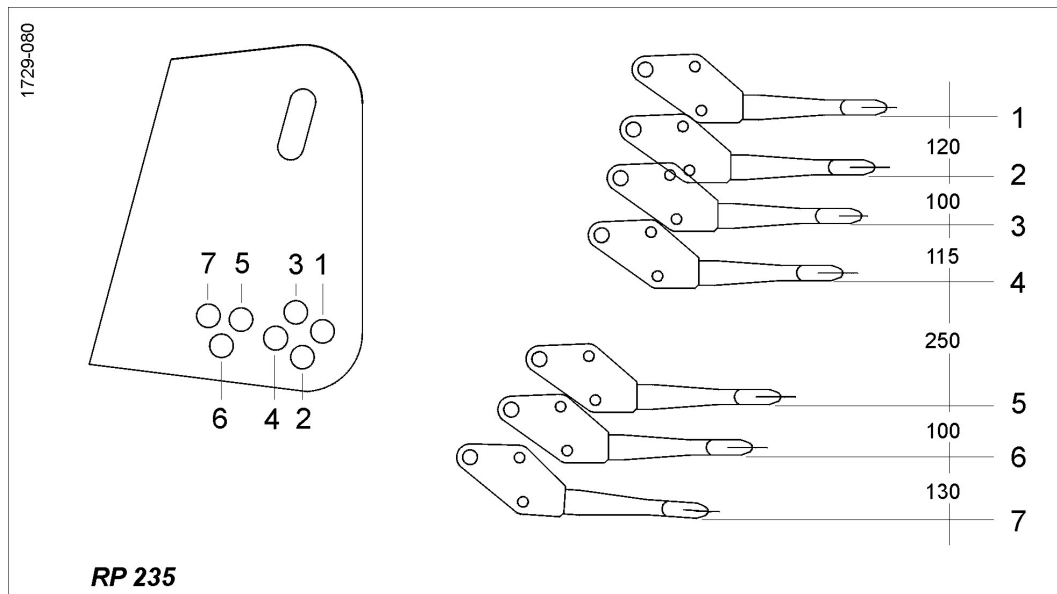

Figure 12
- Figure 12: Using the dimensions stated in adjust the drawbar to the pair of holes approximating the desired value most closely. After each loosening of the safety nuts these must be replaced.
1) Provided the outer radius  $r$  is adhered to, different designs of tow hitch are permissible (see Figure 12).